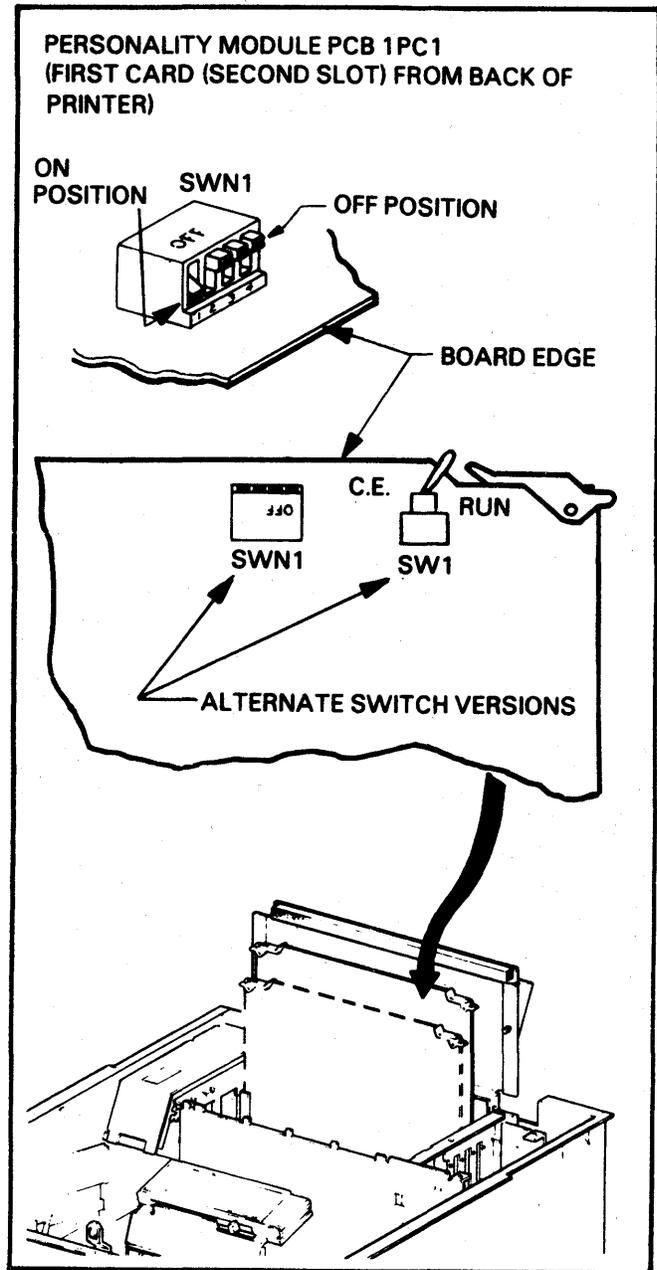

FIGURE 1-2. RS-232 PERSONALITY MODULE (1PC1) SWITCHES
- b. Open the Card Cage Cover and set SWN1 (or SW1 on early units) to the "OFF" or "CE" position. See Figure 1-2.